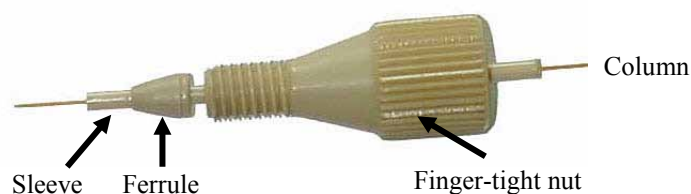

Fig. 64: Fitting connection
1. To establish a zero dead volume fitting connection between the column and the injection valve, a finger-tight nut, ferrule, and sleeve are required. Slide the finger-tight nut and the ferrule onto the sleeve as shown in Fig. 64.